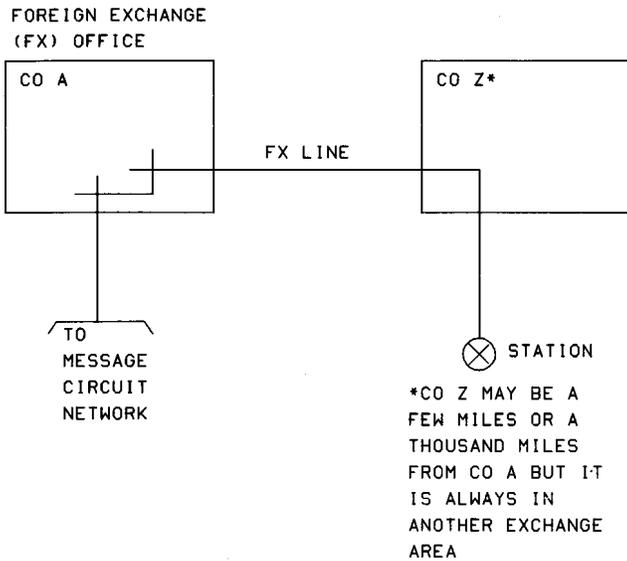

Fig. 3-3—Typical Foreign Exchange (FX) Line
**3.08** A foreign exchange (FX) line (Fig. 3-3) permits a customer to appear as a local